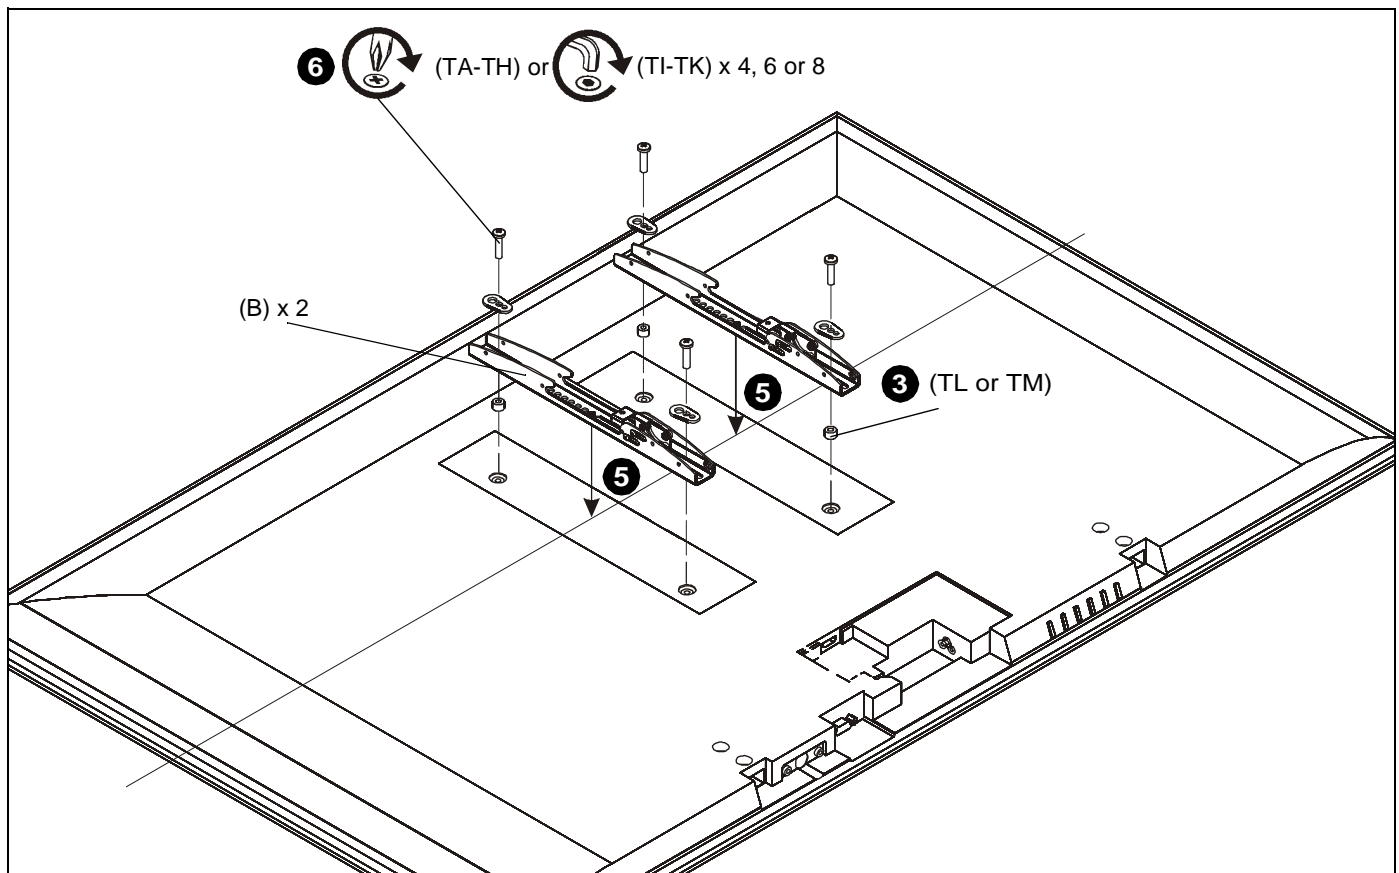

Figure 5
2. Select screw *diameter* by examining hardware (TA-TK) (4mm, 5mm, 6mm or 8mm) and comparing with mounting holes on display. (See Figure 5)
3. Select spacers: (See Figure 5)
- If mounting holes are not recessed and both uprights (B) can lay flat against display, then no spacers are required.
- If mounting holes are recessed, or if protrusions prevent uprights (B) from laying flat, then spacers (TL or TM) must be used.
4. Select screw *length*: (See Figure 5)
- Using your hand, insert **SHORTEST** length screw of selected diameter (TA, TD, TG or TI) through universal washer (TN), uprights (B), selected spacer (TL or TM), into display mounting hole. Do **NOT** thread screw into hole at this time.
**NOTE:** Universal washers (TN) are not needed if using M8 button head cap screws (TI, TJ or TK).
5. Place uprights (B) on display, ensuring: (See Figure 5)
- Center of uprights (B) are as close to the center of the back of display as possible after being installed. Center of bracket is indicated by the diamond-shaped hole.
6. Use selected screws and spacers to install two interface uprights (B) to back of display. (See Figure 5)